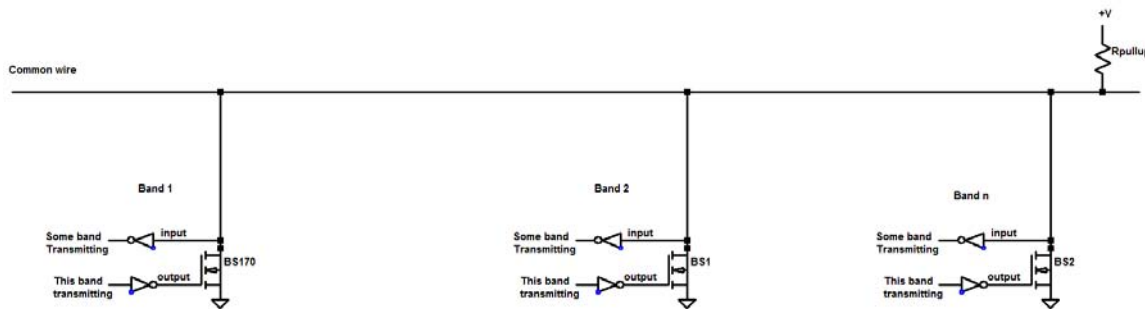

Figure 7 – Wiring multiple sequencers for Multiband Transmit Protection
- **Multiband transmit protection** – some compact antenna stacks, particularly in rover installations, have significant power getting into antennas for different bands. One solution is to switch the TR switch on all bands to transmit when any band is transmitting. This can be done with just one wire connecting all rigs together, as long as all use similar sequencers, using two Arduino pins, one output pin to drive a FET to pull the wire Low when this band is transmitting, and one input pin to detect when any band is transmitting. A bit of code can sort out the difference and prevent conflicts. The wiring is sketched in Figure 7.